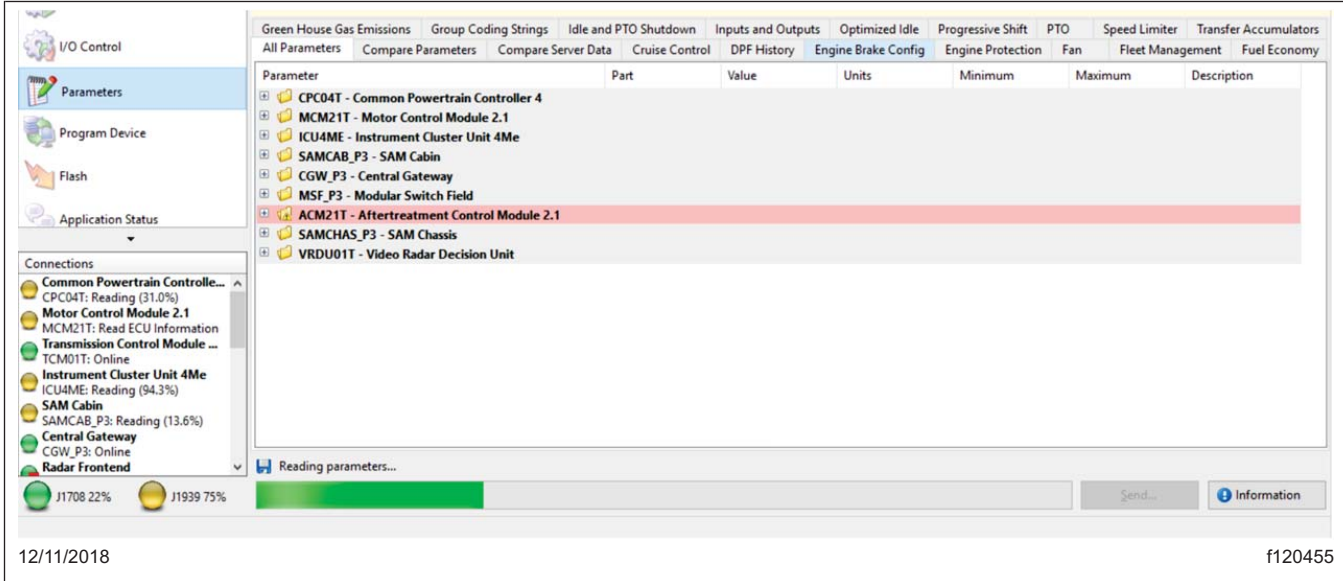

Fig. 4, Reading Vehicle Parameters on DiagnosticLink
- Once all controllers are connected, read the vehicle parameters. See Fig. 4.